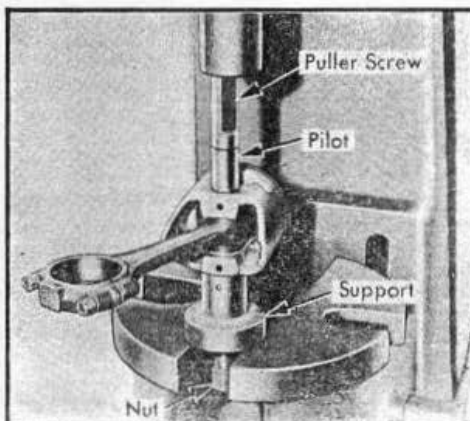

Fig. 17 Removing piston pin, 1950-54
Note—Cadillac recommends the use of the equipment shown in Figs. 17 and 18 when necessary to install a connecting rod to a new piston and pin assembly. This method is much faster than the
4. Install nut loosely on puller screw and place assembly in arbor press as shown in Fig. 17.